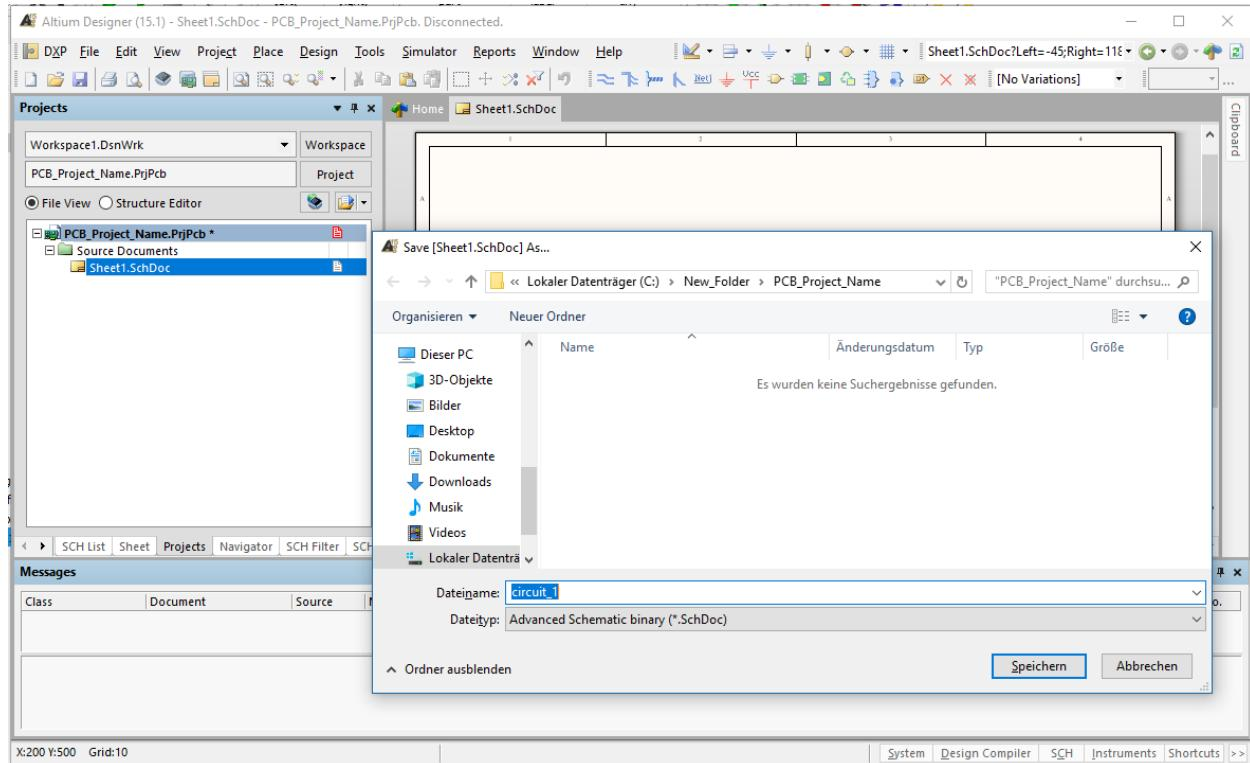

Figure 15: Altium save schematic sheet with an expressive name.
7. Press **CTRL+S** to save the new generated sheet and name it circuit_1", as shown in Figure 15.